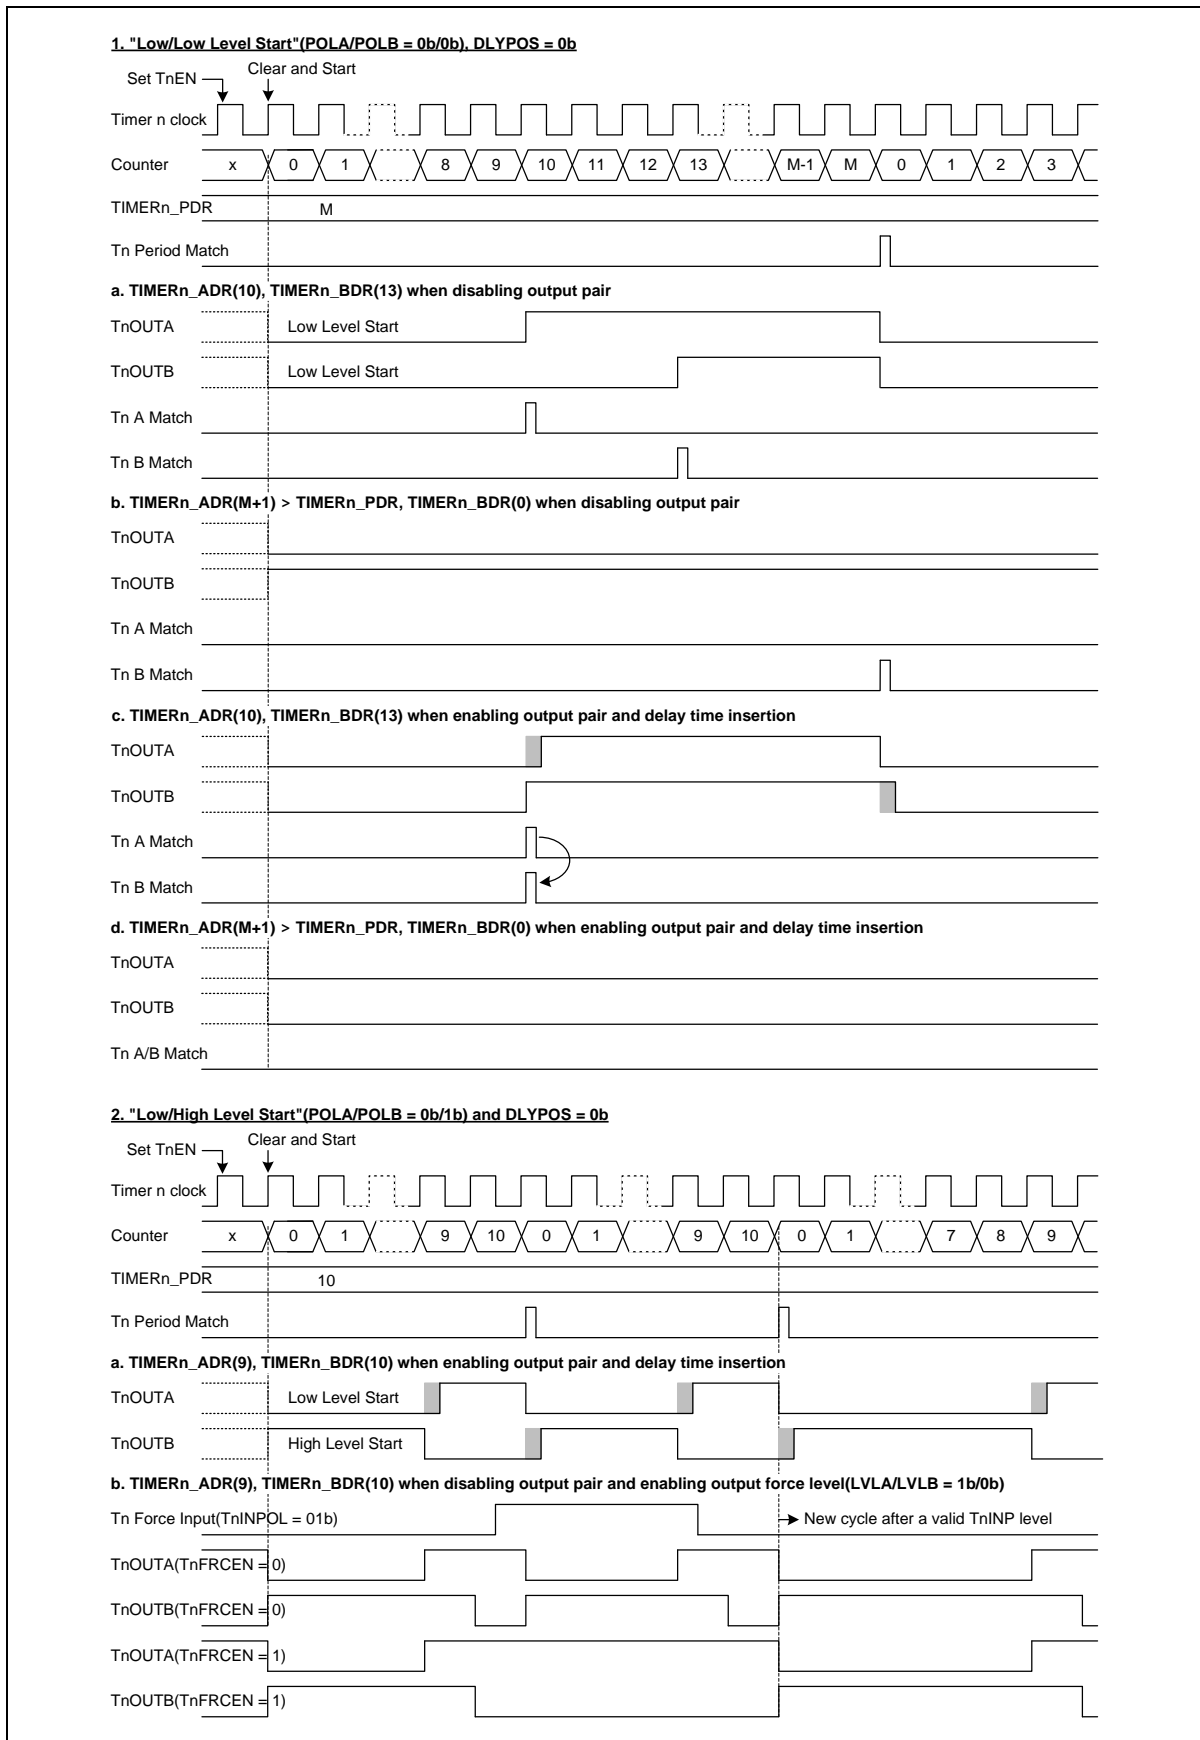
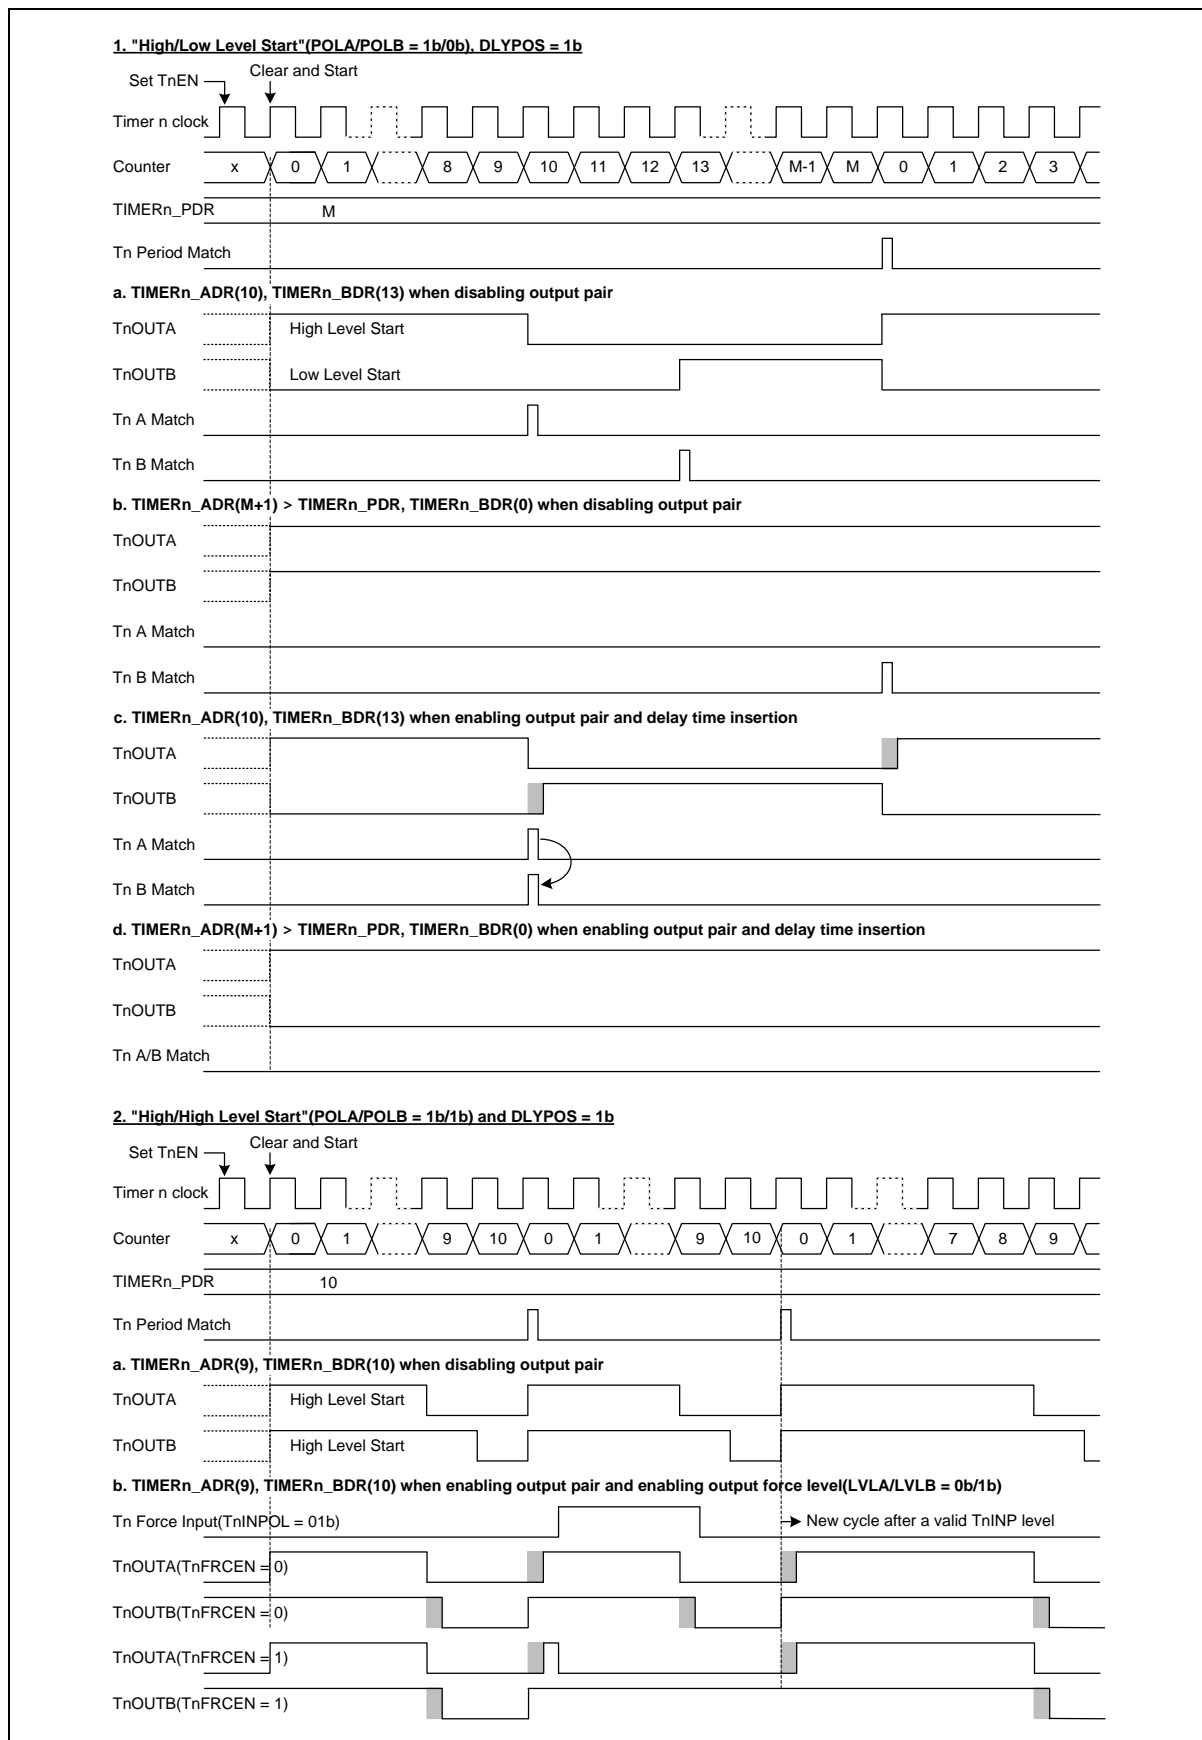

Figure 42. Interval Mode Timing Chart With "DLYPOS = 0" (n = 40, 41, 42 and 43)
Figure 43. Interval Mode Timing Chart With "DLYPOS = 1" (n = 40, 41, 42 and 43)
Using the DLYEN bit, DLYPOS bit, the TIMERN_DLY register can delay the PWM output. When DLYPOS is set to '0', the delay is inserted in front of TnOUTA and behind TnOUTB pins. When DLYPOS is set to '1', the delay is inserted behind TnOUTA and in front of TnOUTB pins. Figure 42 and Figure 43 show example timing waveforms. (n = 40, 41, 42 and 43)
The TnFRCS[1:0] bits select an input pin for a given channel and the TnINPOL[1:0] bits select the valid level of input signal. As an example, see b of item 2 in Figure 42 and Figure 43. (n = 40, 41, 42 and 43).